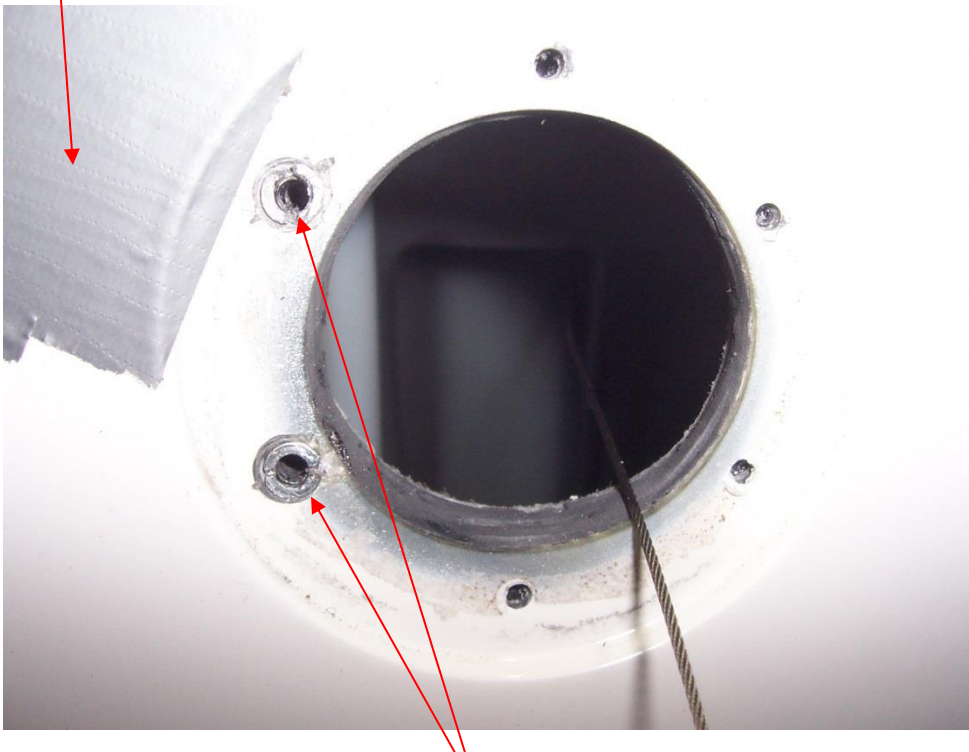

Fig. 6: Two rivnut heads slotted for drilling
- The two most fwd screw positions do not pass into the fuel tank void but into rivnuts secured in the body moulding. These must be carefully and progressively drilled-thru 4.1mm diameter. If the drill bites into the rivnut and causes it to spin in the body the fuel cap mounting plate must be removed completely by prising it off the cork gasket between it and the body. (The gasket is bonded in place with Loctite 5331 sealant). The rivnut heads may then be slotted (using a Dremmel or similar tool) to enable the rivnut heads to be held still during drilling (fig 6).